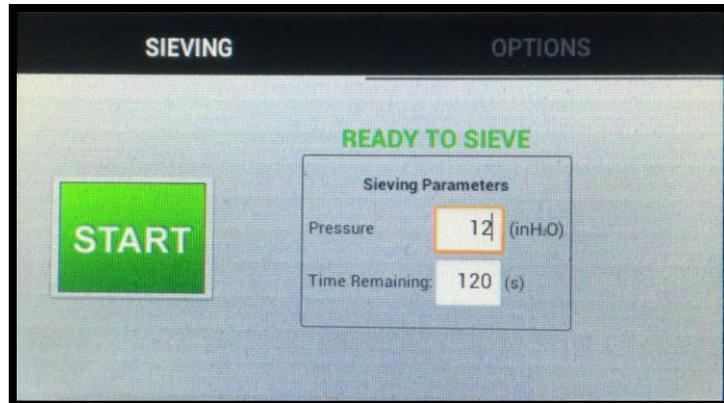

Figure 4
- Once the software has completely opened, the (start-up) “SIEIVING” screen will be displayed (Figure 4).